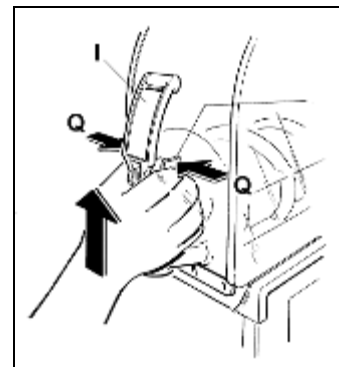

Fig. 3
- Simultaneously apply pressure to the two securing tabs (Q) and lift the dispensing tap (I) to pull it out of its fixed position (see figure 3).